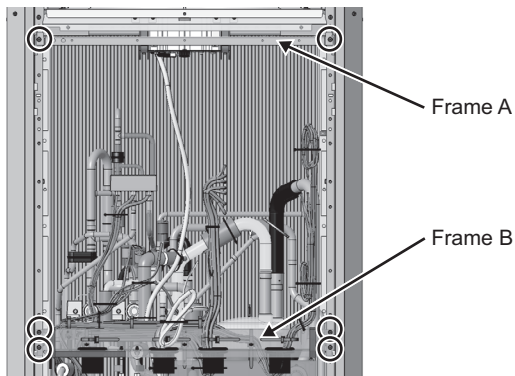

Fig. 27
- (4) Remove the wires that are secured to frame B and remove frames A and B. (Six screws: Fig. 27)